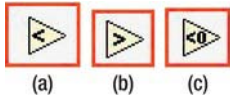

Figure 10-14. (a) *The Less? Function*, (b) *the Greater? Function*, and (c) *the Less than 0? Function*
- *Less?*—This function compares a value x to a value y and tests whether x is less than the y value (see Figure 10-14(a)).
- *Greater?*—This function compares a value x to a value y and tests whether x is greater than y (see Figure 10-14(b)).
- *Less than 0?*— This function compares a value x to zero (see Figure 10-14(c)).